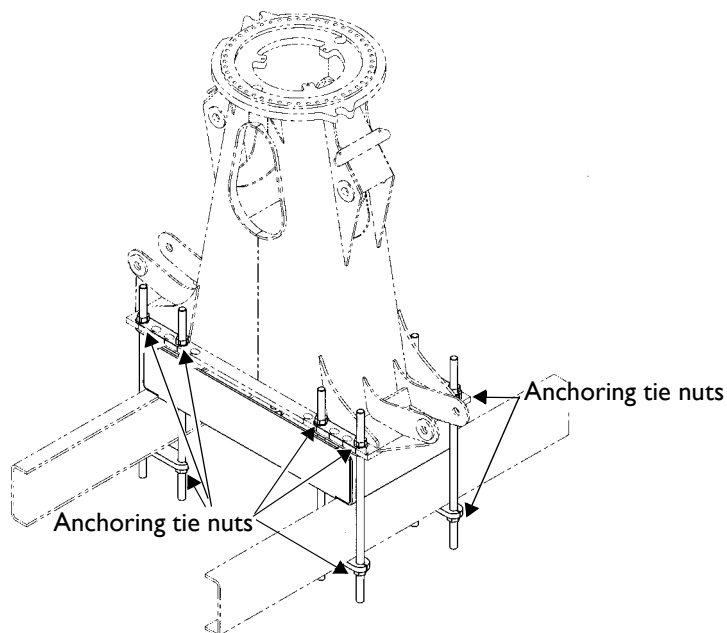

Figure 21
- the anchoring ties where the loader is mounted onto the carrier (for their location, see *Figure 21* on page 51),
1. The anchoring tie nuts are located where the loader's frame is mounted onto the carrier. Check one nut from each of the eight pairs for a torque value of **900 ft-lb** (see *Figure 21*, below).